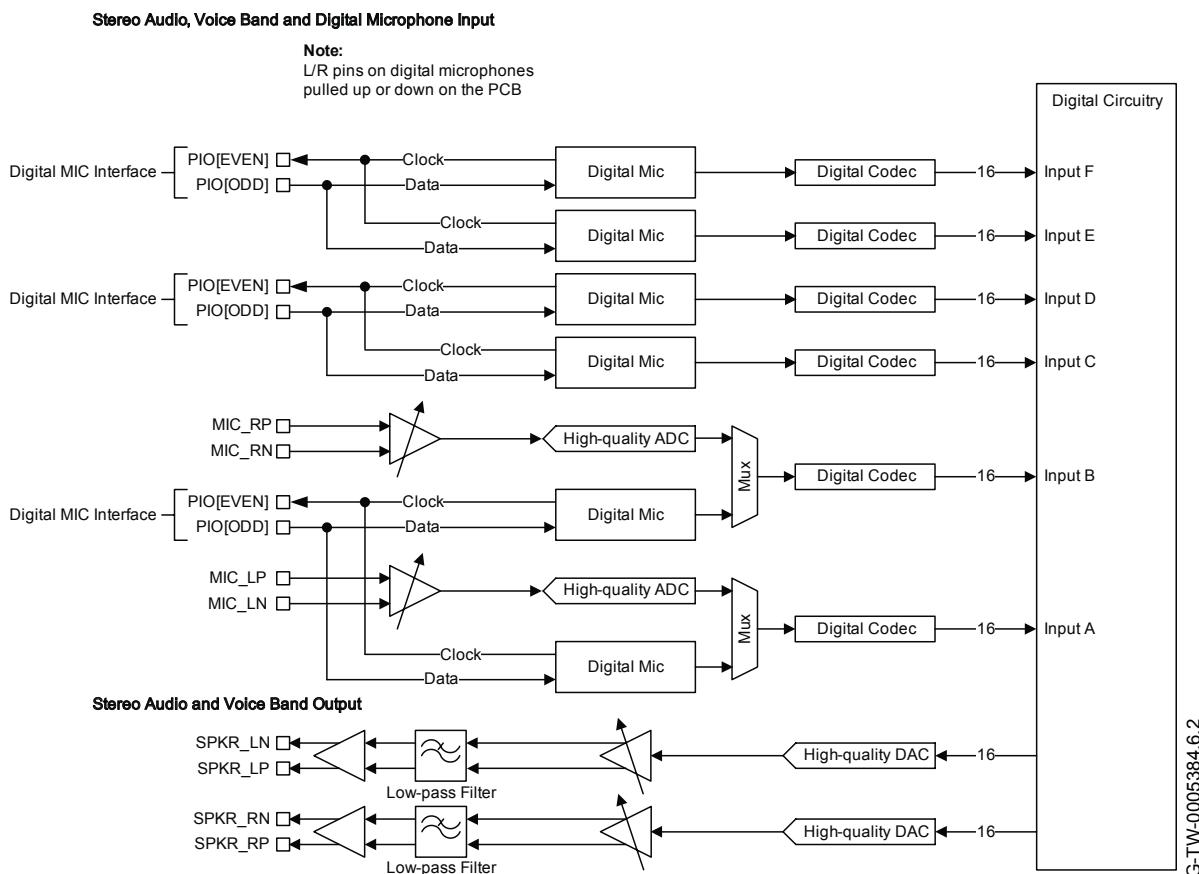

Figure 10.2: Audio Codec Input and Output Stages
Figure 10.2 shows the CSR8675 WLCSP consists of 2 high-quality ADCs:
- 2 fourth-order Sigma-Delta converters enabling 2 separate channels that are identical in functionality, as Figure 10.2 shows.